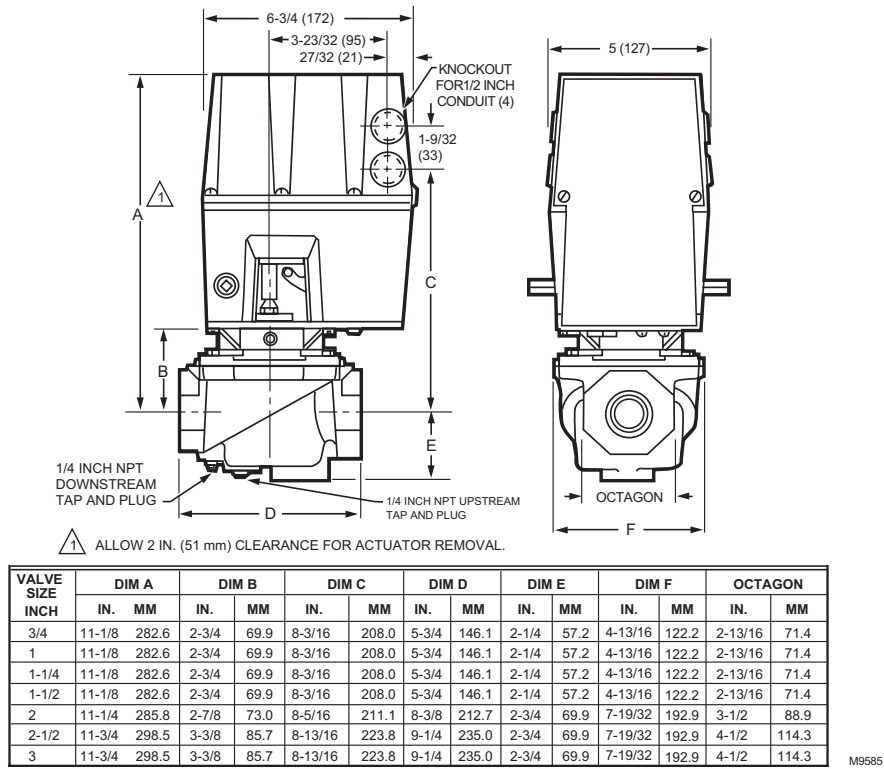

Fig. 2. Approximate dimensions of the 3/4 through 3 in. V5055 Valves, with valve actuator, in in. (mm).
**Dimensions:** See Fig. 2 and 3.